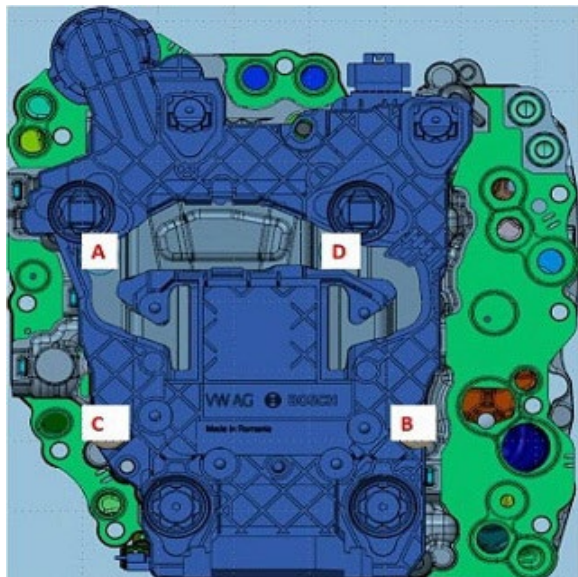

Figure 16. Bolts for the transmission control unit.
20. Unscrew the 4 bolts (Figure 16) (A, D short and B, C long), then carefully detach the gearbox control unit upwards from the mechatronic unit.
Tighten the control unit with new bolts in 2 stages (Figure 16).